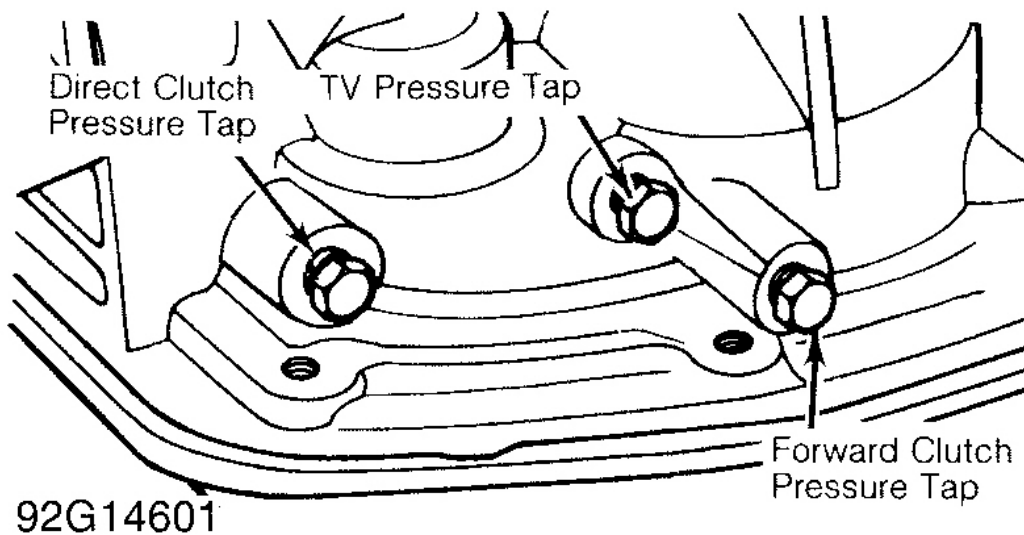

Fig. 7: Identifying Control Pressure Taps
3. Since closed throttle downshifts are extremely difficult to detect, it may be necessary to attach 0-100 psi (0-7.0 kg/cm²) pressure gauges to forward and direct clutch pressure taps in order to detect Overdrive to 3rd gear and 3rd to 2nd gear coast downshifts. See **Fig. 7**.
1. Connect a 0-300 psi (0-21.1 kg/cm²) pressure gauge to main line pressure port tap on left side of transmission case just above control levers. See **Fig. 7** . Gauge hose must be long enough to read gauge while operating engine.
2. Connect a 0-100 psi (0-7.0 kg/cm²) pressure gauge to T.V. pressure tap at right side of transmission case. See **Fig. 7** . Gauge hose must be long enough to read gauge while operating engine. Ensure T.V. linkage is properly adjusted.
1. Attach accurate 0-300 psi (0-21.1 kg/cm²) pressure gauges to the forward and direct clutch pressure taps on right side of transmission. See **Fig. 7**. Gauge hose must be long enough to read gauge while road testing vehicle.